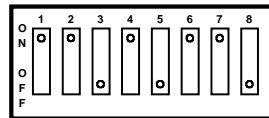

Figure 6. Receiver #4 Coding
**Receiver #4:** Switch 1 ON, switch 2 ON (see Figure 6)